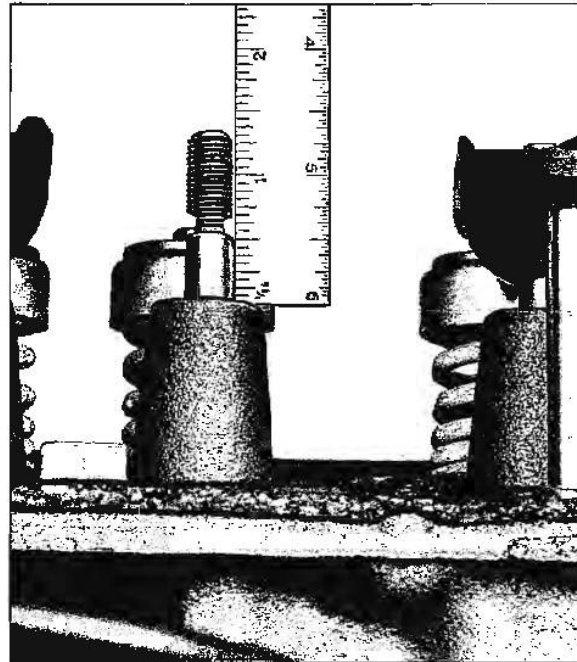

Fig. 6-25 Slots for Removing Rocker Arm Stud
3. File two slots $3/32''$ to $1/8''$ deep on opposite sides of rocker arm stud (Fig. 6-25). Bottom of slots should be $1/2''$ from top of stud hole (Fig. 6-25).